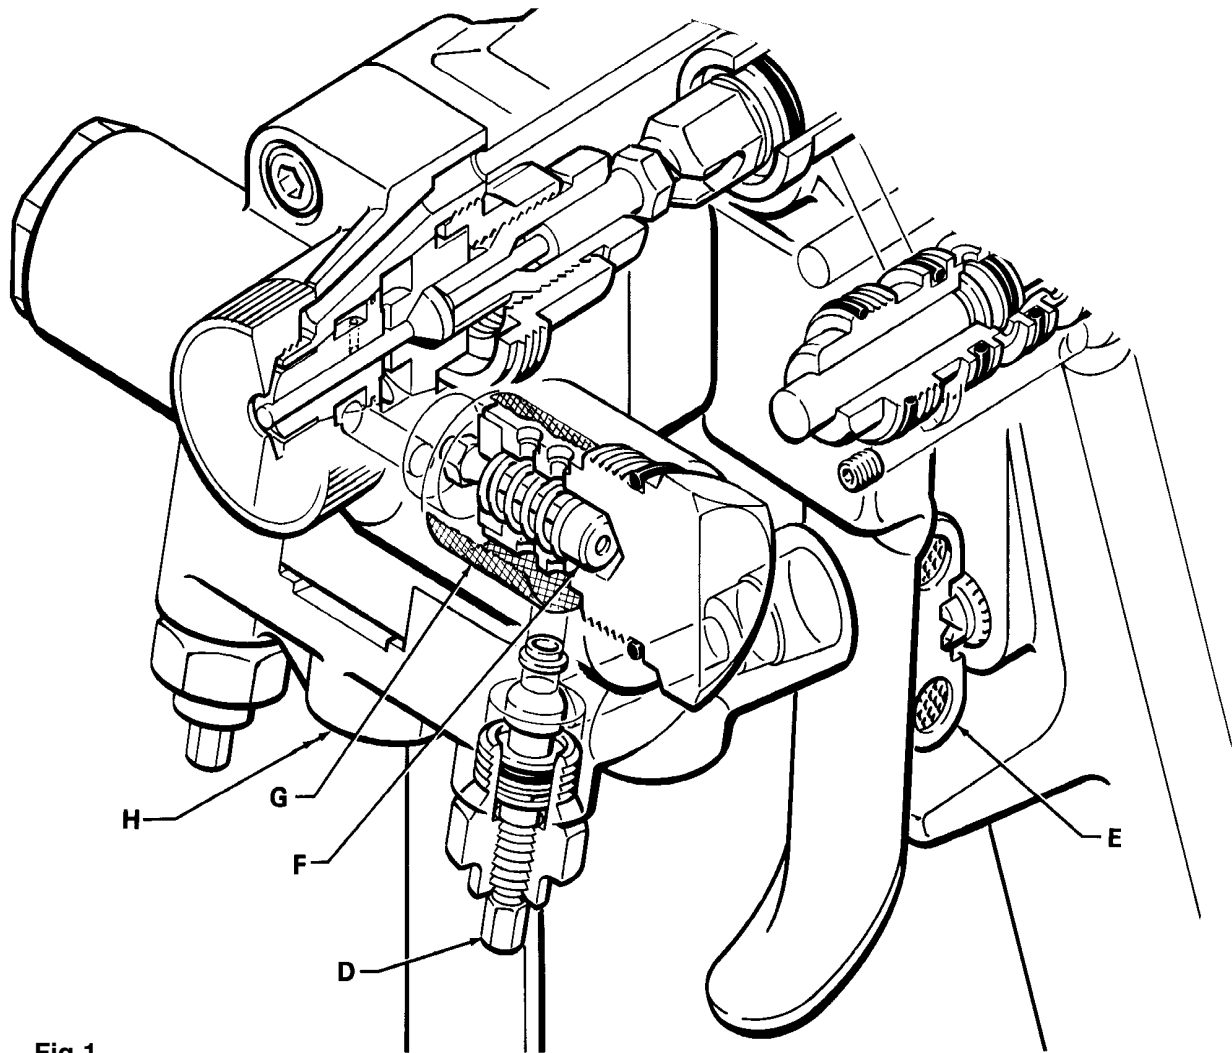

Fig 1
2. Remove the retaining ring (3). Use a 3/16" hex key wrench to remove the capscrew (H) from the gun's foam manifold, then remove the manifold. See Fig 1.
3. Remove the fill cap (B) from the solvent container (4), and fill the container just 2/3 full with a compatible solvent. Reinstall the fill cap and tighten securely.
4. Attach an air hose to the air chuck assembly (6), then pressurize the container through the air valve, on the fill cap (B), to *120 psi (0.8 Mpa, 8 bar) maximum air pressure*.
5. Attach the solvent manifold (7) to the gun and tighten the screw (2) snugly.
9. From the gun, remove and clean the check valve housings (F) and strainers (G) in solvent. See Fig 1.